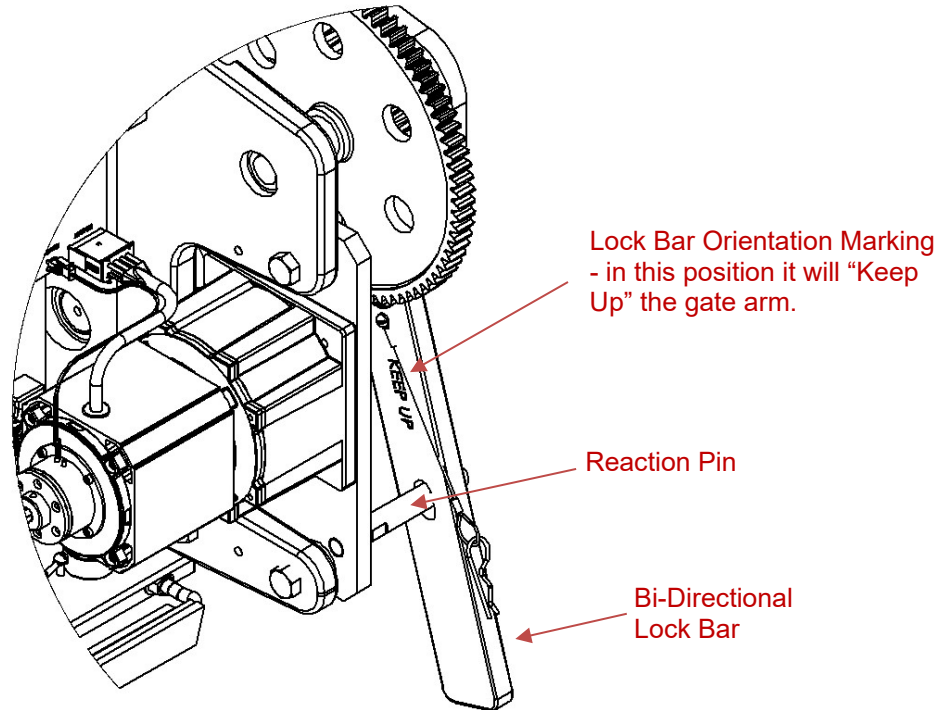

Figure 2-5 Bi-Directional Lock Bar Illustration – Left Side View
REFER TO FIGURE 2-5 TO DETERMINE THE PROPER ORIENTATION OF THE LOCK BAR TO HOLD THE GATE IN THE DESIRED POSITION.
The Operating Mode switch is located in the upper center of the control board and is used to drive the gate mechanism from the vertical to the horizontal position so that a damaged gate arm can be repaired. By switching the Operating Mode switch from the lower Normal position to the upper Maintenance position, the Motor Down pushbutton can now be activated to power down the mechanism. The S-80 is designed to drive a mechanism with seven (7) 58 pound counterweights, fully extended, to the horizontal position. The Bi-Directional Lock Bar must be installed to hold the mechanism in the horizontal position once it has been powered down using the Motor Down pushbutton. See Figure 2-5.